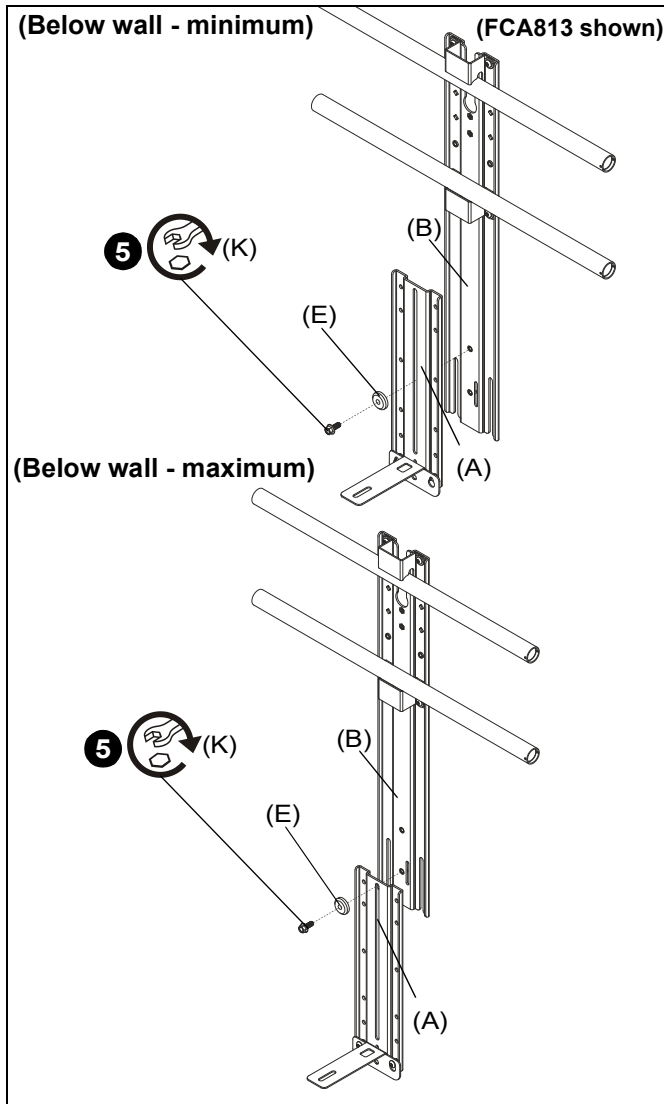

Figure 5
- Use 1/4-20 x 5/8" hex head flange bolt (K) and center washer (E) to secure upright bracket (A) to main bracket (B). (See Figure 5)